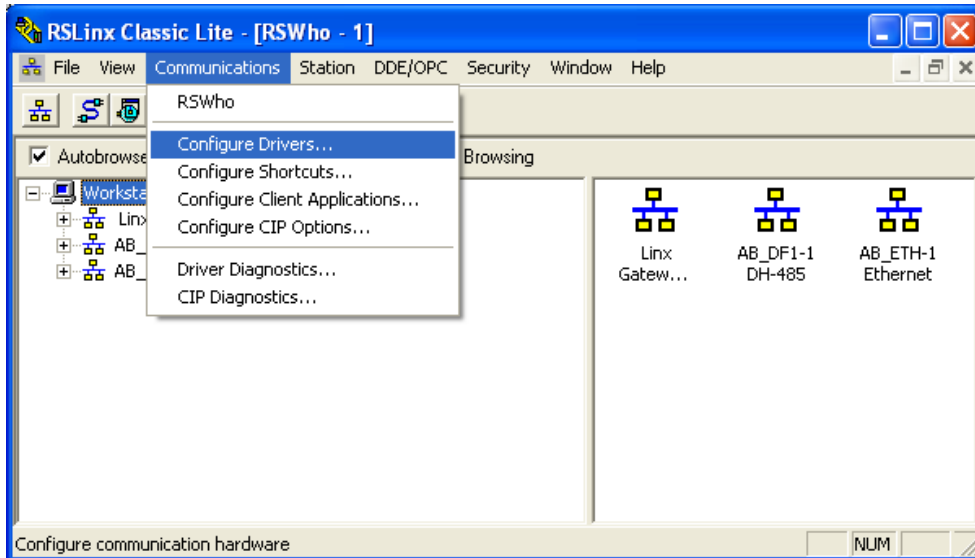

Figure 54: RSLinx Configuring Drivers
- a) Start RSLinx and navigate to Communications->Configure Drivers (see Figure 54).